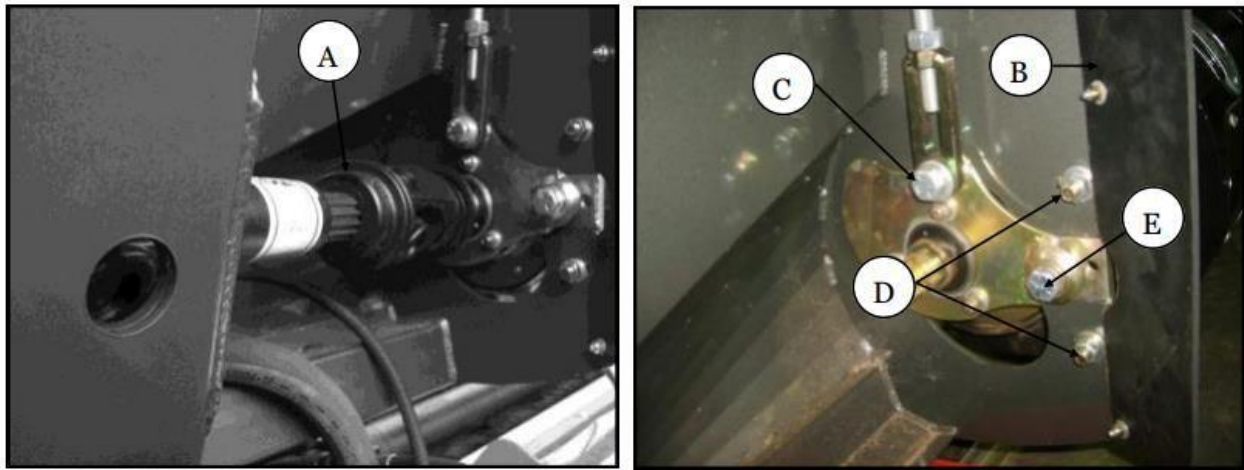

Figure 3 : Disconnecting Bolts (Image: Midwest)
Disconnect the front from the harvester (header/combine) and place it on the trailer. Remove the PTO shaft and drum rubbers (items A and B in Figure 3). Secure the existing feed drum using a ratchet strap as shown in figure 2 below. An extra strap and wooden planks may be used as levers to assist in lifting and strapping the feed drum securely. Alternatively, use a forklift or similar if available as the feed drum weighs more than 80kgs.
Replace the OEM yoke and universal joint cross on the PTO connecting to the Typhoon shaft as seen in Figure 3 Item A with the yoke and universal joint cross supplied in the Mounting Kit (Items 17.1,17.2,19.1&19.2 in drawing TY-MW-MK). The Mounting Kit will have different yokes & universal joint cross for the different model fronts (Durus 2017 & Later, Durus 2013-2016 & Crophawk).
Remember to slide the PTO arm back into position as shown in Figure 3 before installing the Typhoon. Installing the PTO arm with the typhoon in the front is difficult.
Before installing the Typhoon remember to slide the PTO back into position as shown in Figure 3 (A).